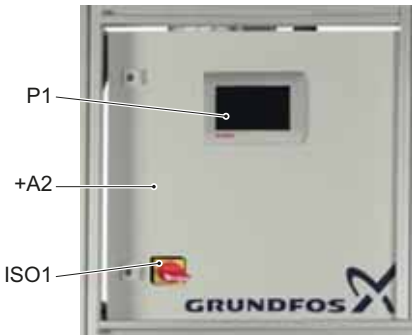

Fig. 12 Display and control elements
**Note** Wait at least 2 minutes before operating the system from the HMI. See fig. 12, pos. P1.